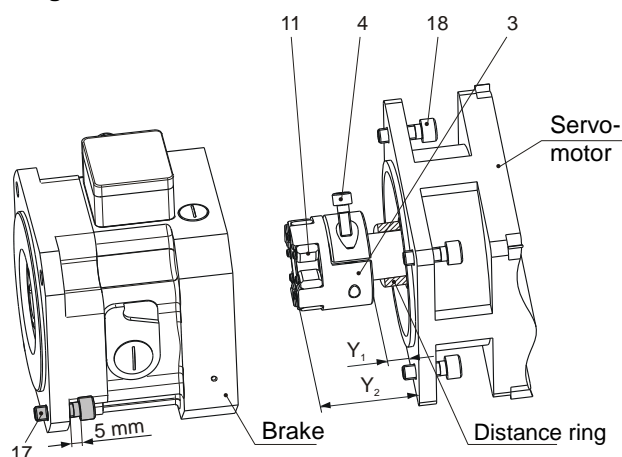

Fig. 26
3. Screw in the cap screws (17) for the brake/machine (leave approx. 5 mm stroke, see Fig. 26).
4. Adjust the output-side shrink disk hub (1) using axial movement to the installation dimension " W " acc. table in section **4.5**. We recommend an adjusted distance ring as a fixed limit stop.
5. Tighten the cap screws (2) stepwise (in 3 to max. 6 tightening sequences) and cross-wise to the tightening torque acc. table in section **4.5**.
6. Pull the brake back to contact on the screw heads (17) (fixing screws for brake/machine), then push them again against the machine (reason: release of the rotor (22)).
7. Tighten the cap screws (17) for the brake/the machine.